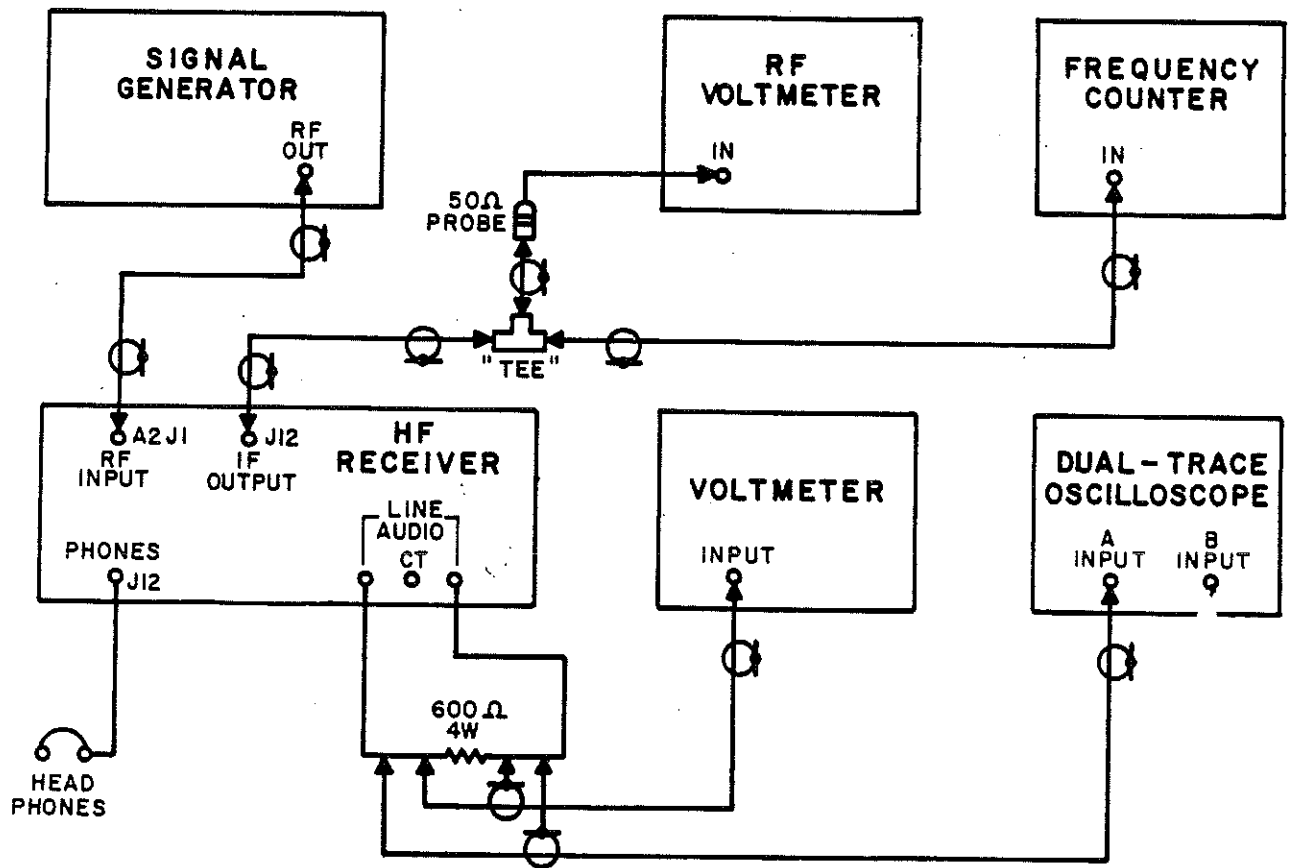

Figure 4-1. Receiver Checkout Procedure, Test Setup.
1. With the receiver deenergized, connect the test equipment as shown in Figure 4-1. Remove receiver top and bottom covers.